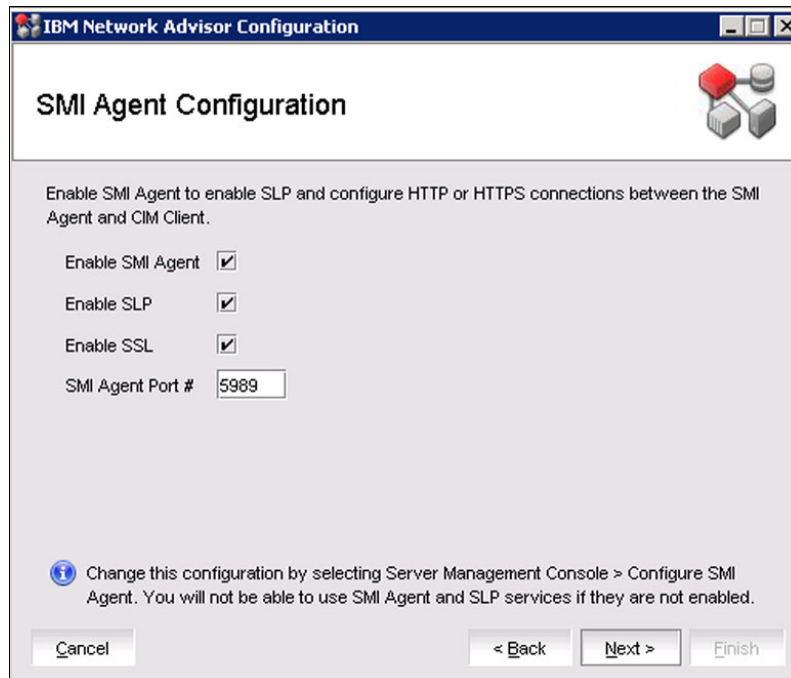

Figure 4-19 SMI Agent configuration window
- The SMI Agent Configuration window opens and prompts you to configure the SMI Agent, as shown in Figure 4-19.